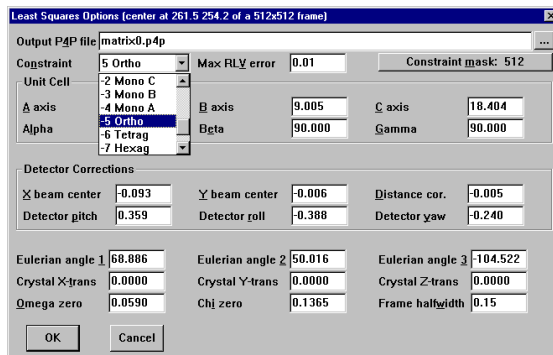

Figure 4-37. Least Squares Options window
1. Click Crystal > LS to further perform the least squares refinement. The Least Squares Options window appears. (Figure 4-37).